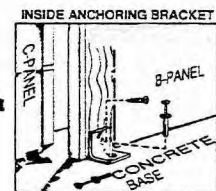

FIG. 1B
B. Square the "A-B" corners. Align the "B" panels so that they form a straight line. Using one (1) hexhead screw and one (1) hit pin for each bracket attach **Inside Aluminum Anchoring Brackets** to "B" panels and concrete (FIG 1B).